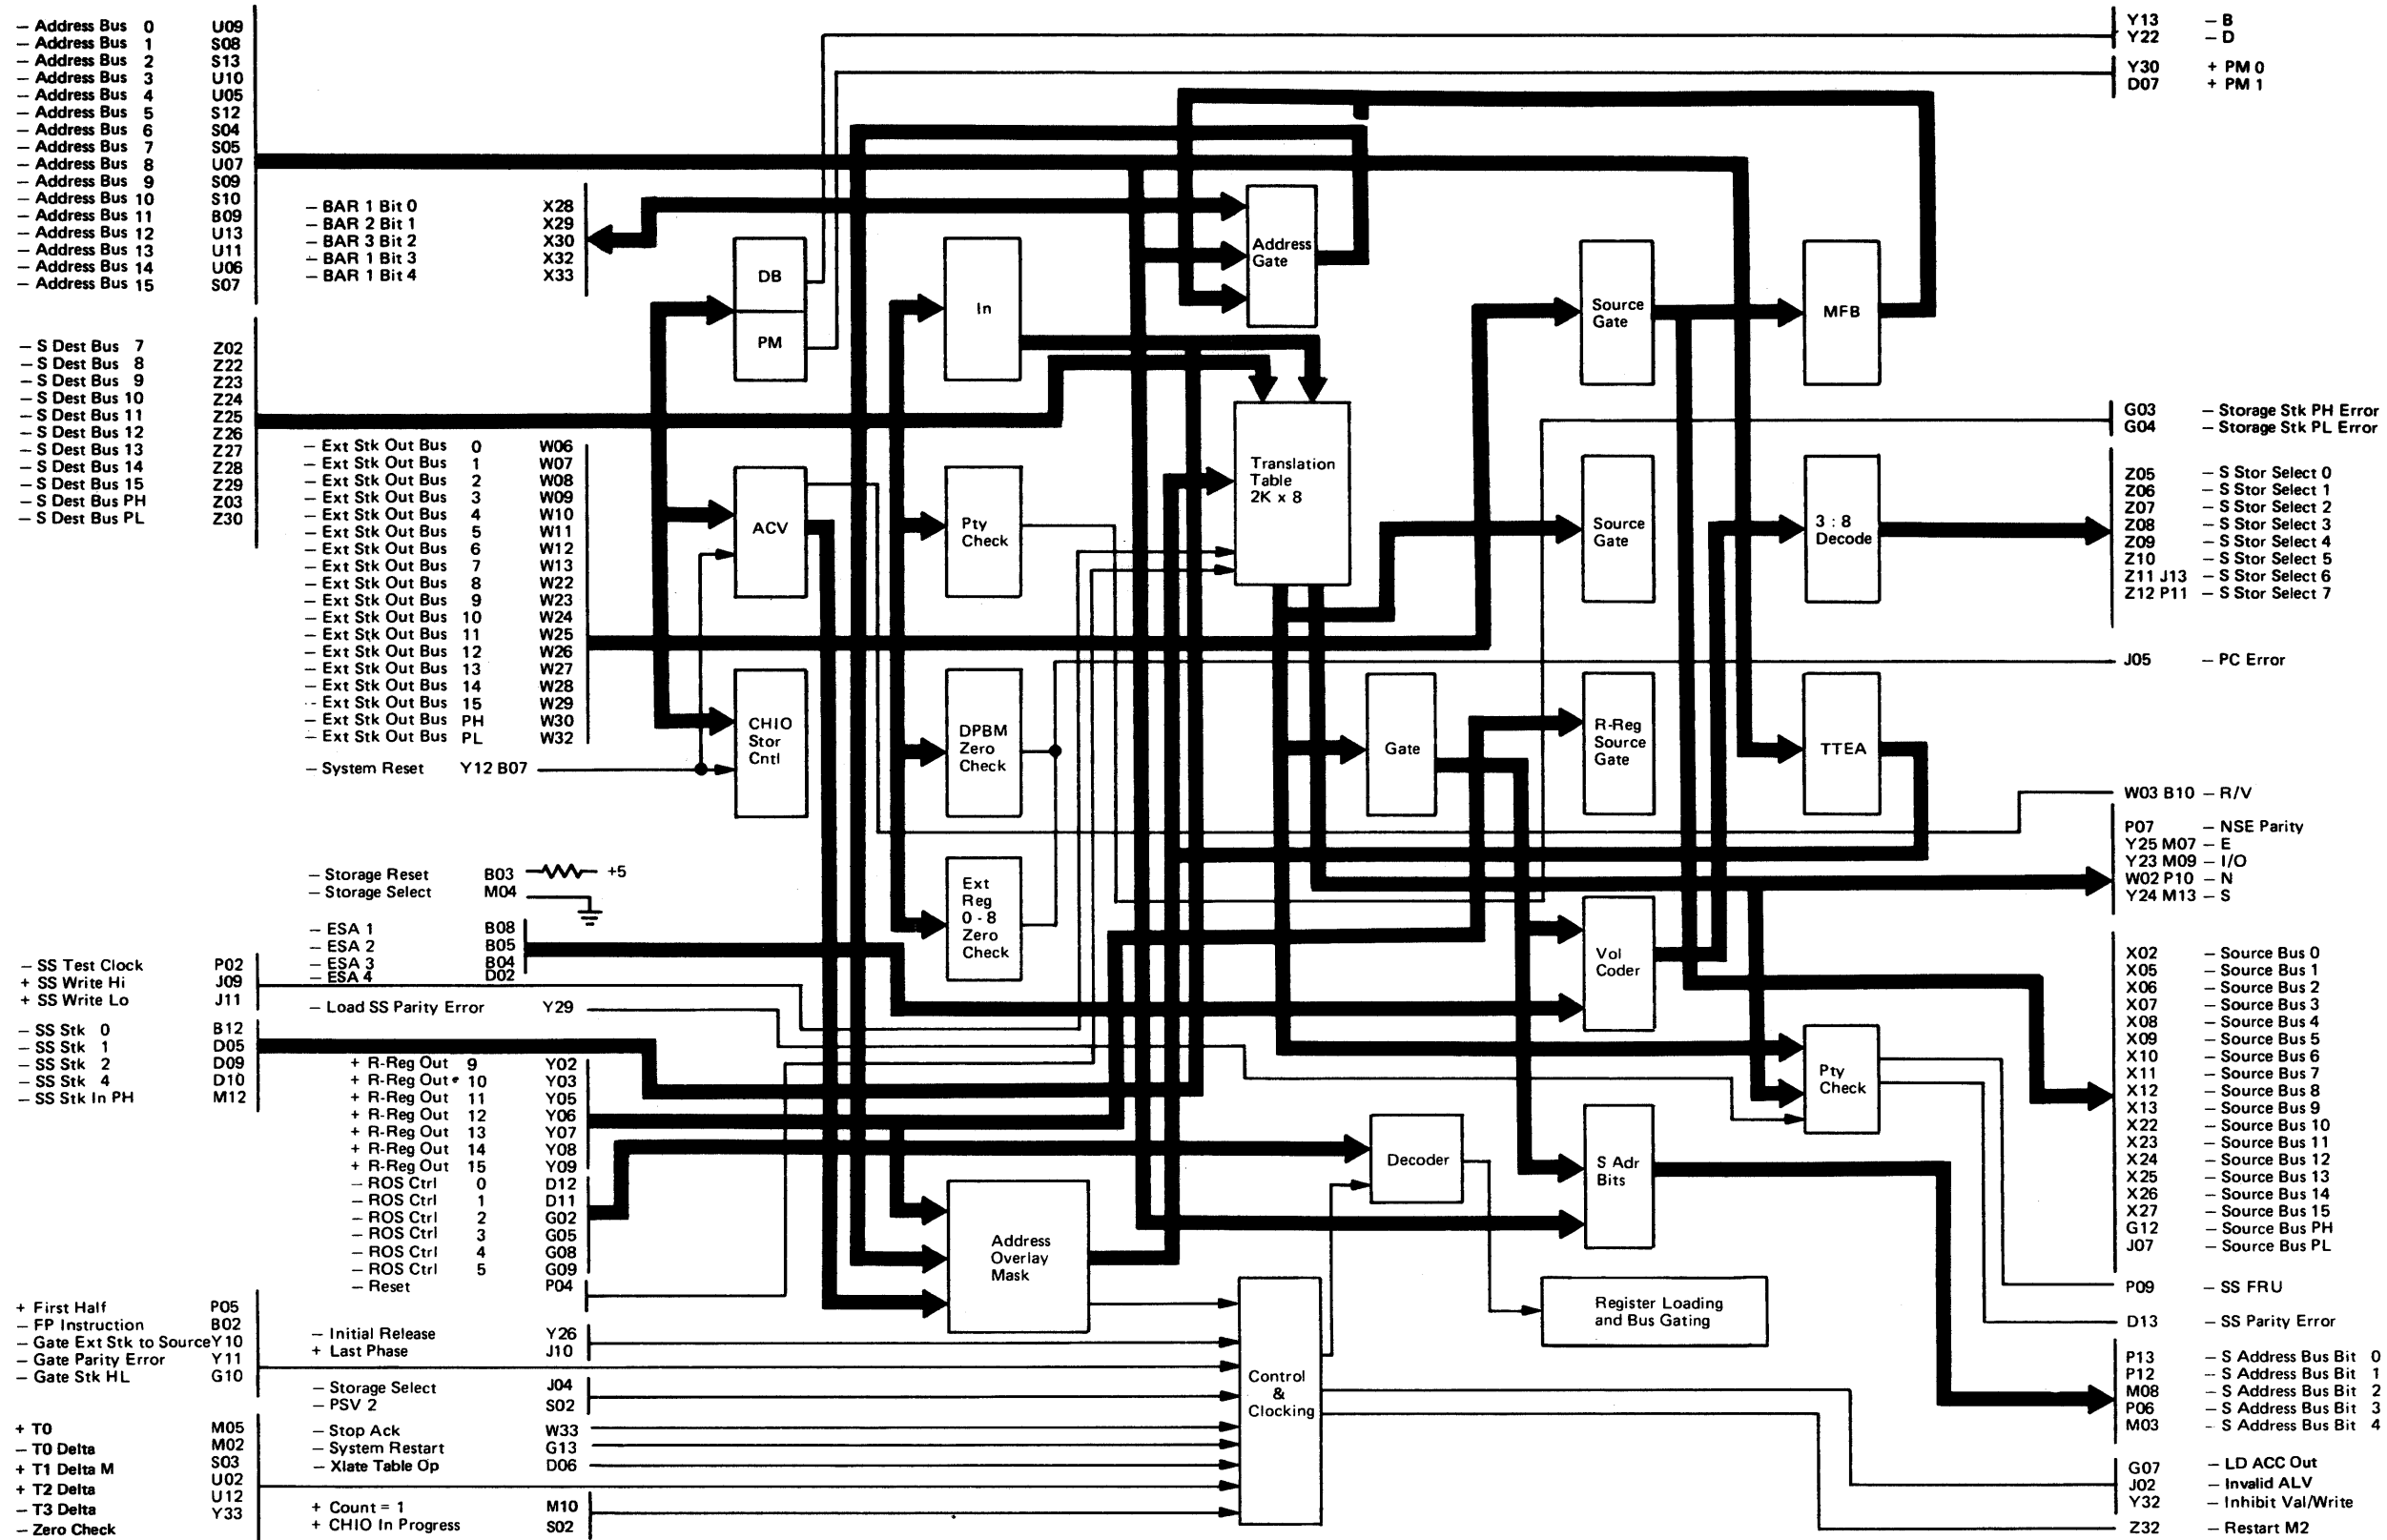
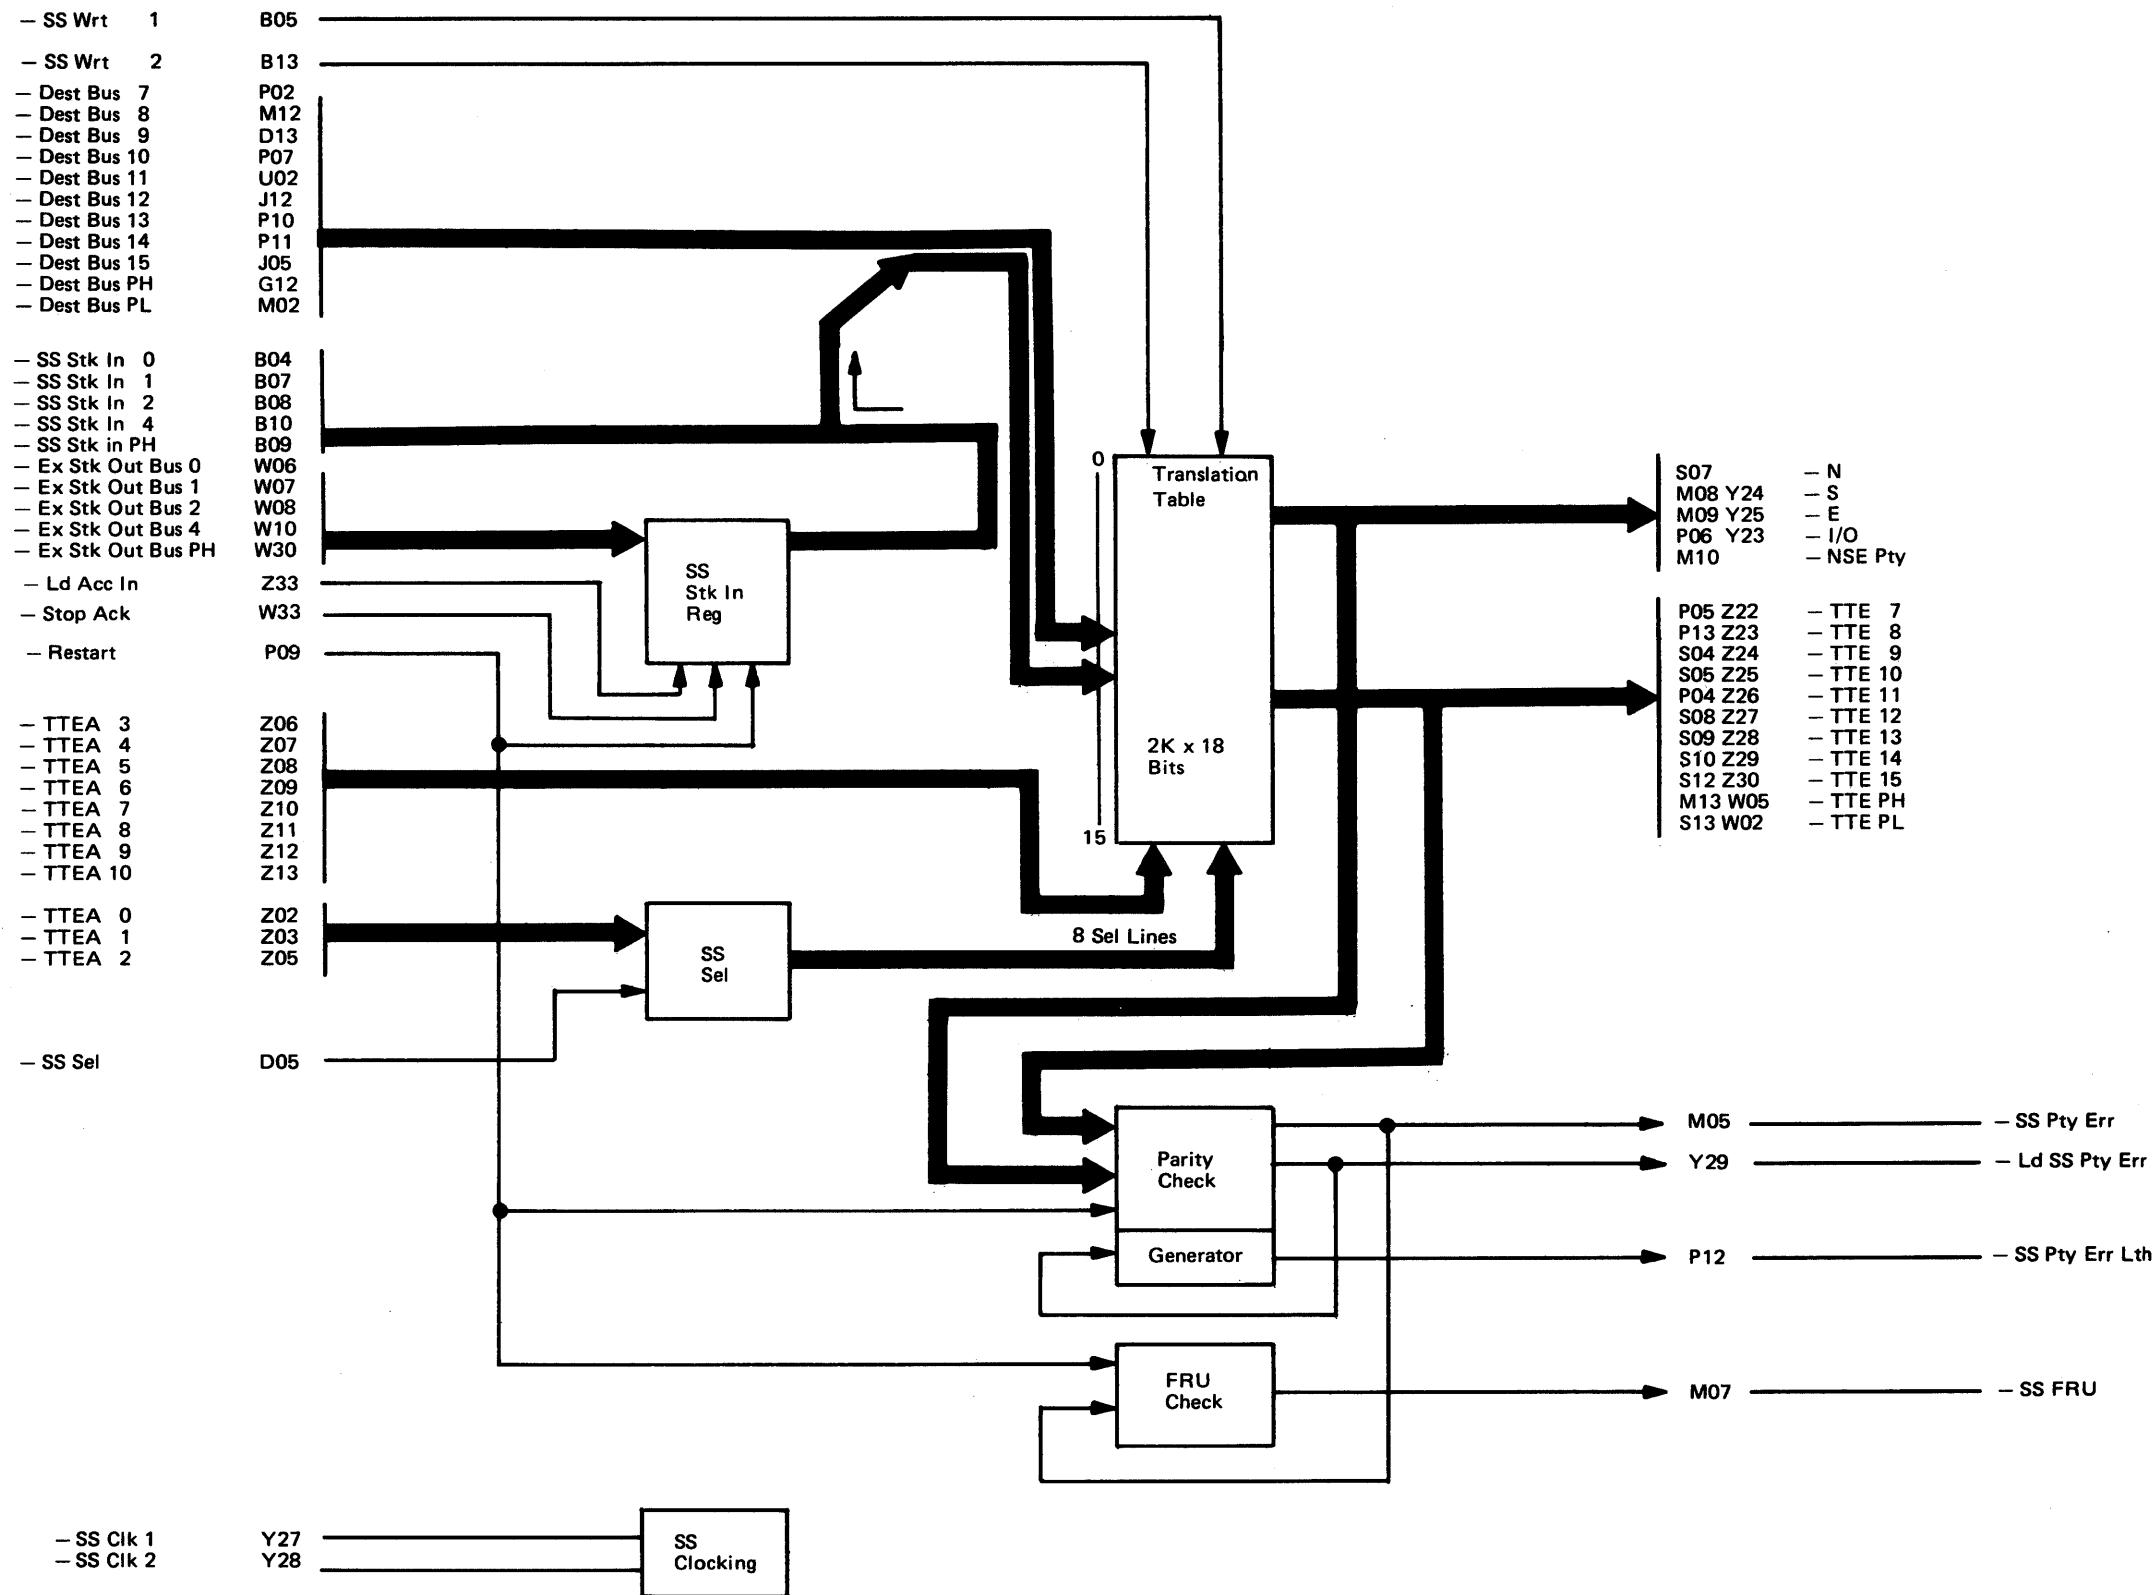

Figure BU457-1. 8130 Storage Addressing Card Data Flow
Figure BU457-3. 8140 Translation Table Card Data Flow
- The 8130 uses only one card (A1J2) for hardware addressing (see Figure BU457-1).
Refer to Figures BU457-1 and BU457-2 for storage addressing card data flow and to Figure BU457-3 for 8140 translation table card data flow.